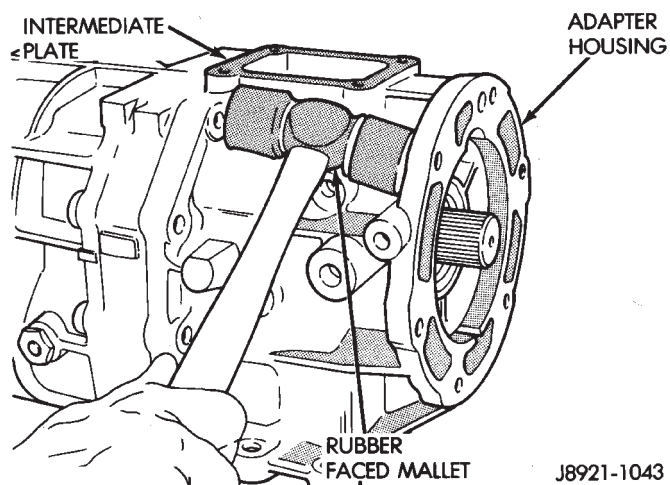

Fig. 13 Loosening Adapter Housing
- (14) Loosen adapter/extension housing with rubber mallet (Fig. 13).